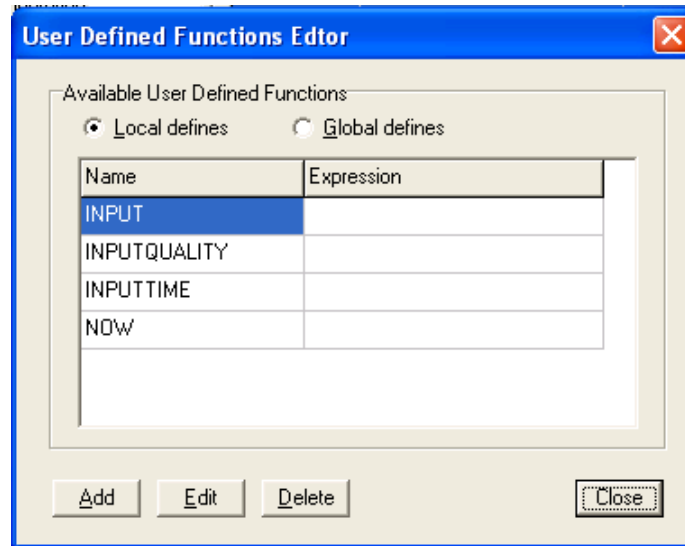

Figure 31 - User Defined Functions Editor
12. If required, from the **Select variable** window, click on the **Modify variables** button to access the **User Defined Functions Editor** (Figure 31) which allows you to add, change, or delete variables.